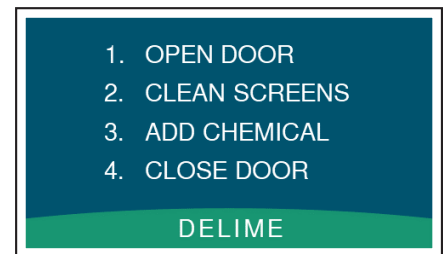

Fig. 51 - Delime Instructions Screen
2. Displays 1. OPEN DOOR 2. CLEAN SCREENS 3. ADD CHEMICAL 4. CLOSE DOOR after drain valve closes. Open the door. Remove scrap screens. Clean food soils. Reinstall screens. Add the delime chemical according to the chemical representative's instructions (see Fig. 51).